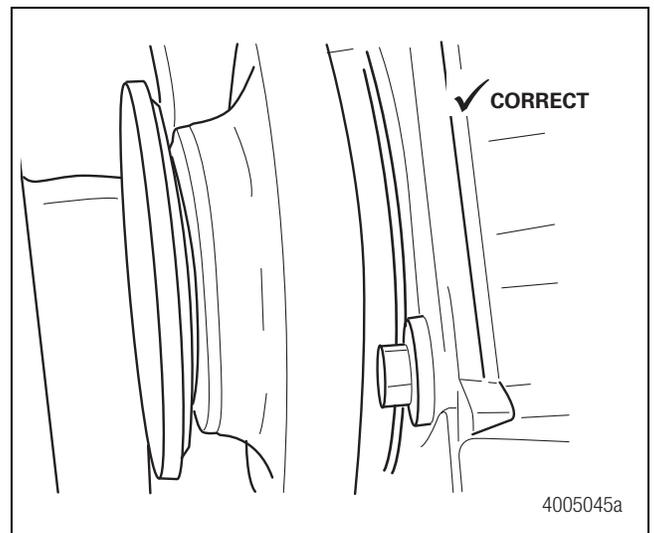
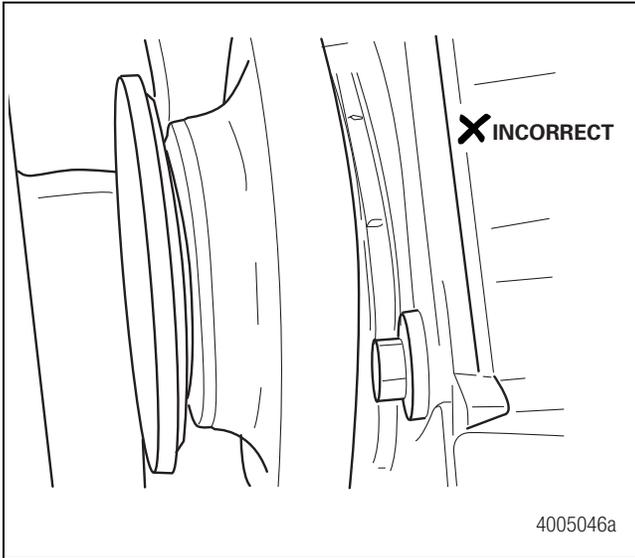

Figure 5.17
Figure 5.18
11. Rotate the piston boot and verify that the piston boot beads are correctly seated in the retainer groove. Figure 5.16. The piston boot beads must be correctly seated. Figure 5.17 and Figure 5.18.